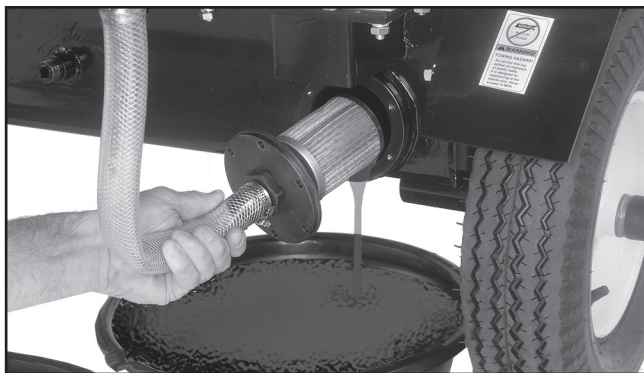

Figure 24. Draining hydraulic fluid.
3. Loosen the screen cover hex bolts and carefully dislodge the cover slightly so the hydraulic fluid fills the drain pan (**Figure 24**).